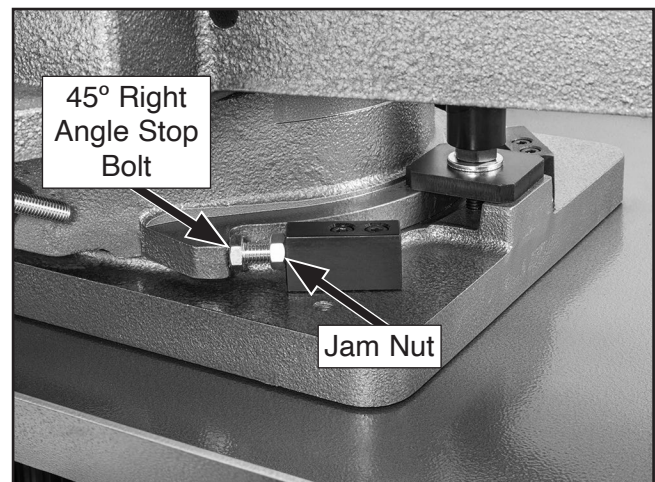

Figure 92. Location of 45° right angle stop components.
12. Loosen jam nut, adjust 45° right stop bolt until it is snug against headstock base and scale is at 45°, then tighten jam nut (see **Figure 92**).